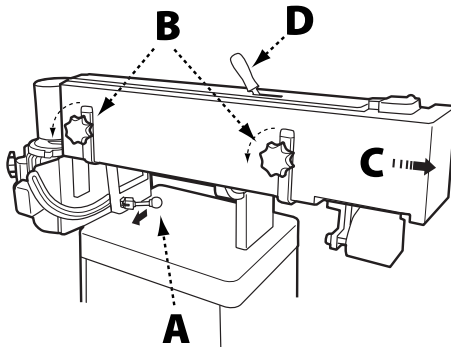

FIGURE 4
1. From the rear of the machine, unlock the sanding platen assembly by pulling the lock handle (A) toward you as indicated in Figure 4. Rotate the sanding platen assembly to the vertical position.
3. Remove the belt guard by loosening the two lock knobs (B) and sliding the belt guard to the right.
4. Place the handle (D) onto the belt tensioning lever and gently tap into place using a rubber mallet.